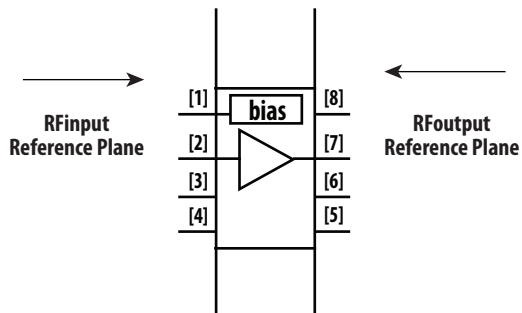

Figure 32
2. Scattering and noise parameters are measured on coplanar waveguide made on 0.010 inch thick ROGER 4350. The input reference plane is at the end of the RFinpin and the output reference plane is at the end of the RFoutpin as shown in figure 32.